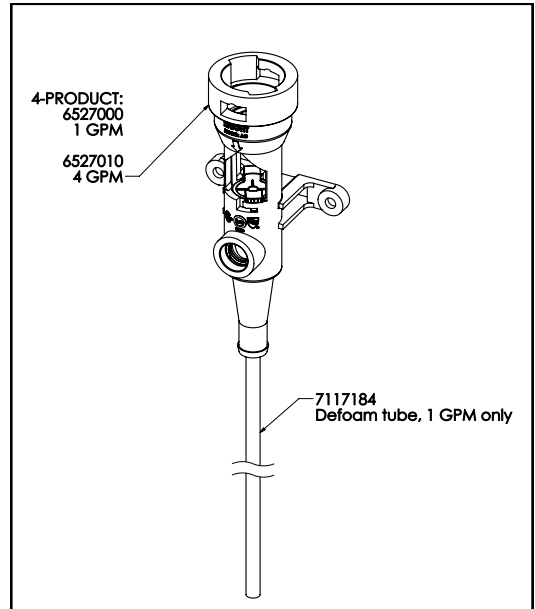

Figure 2 (Aire-Gap Assembly)
- (1) Remove the cover by gently snapping it away from the unit. Disconnect tubing from Aire-gap housing.
- (2) Twist and disconnect Aire-Gap housing counter-clockwise to remove water valve body.
- (3) Remove existing nozzle, deflector plate, and venturi tube by disassembling the Aire-Gap assembly — **See Figure 2.**
- (4) Reassemble the Aire-Gap using new nozzle, splash deflector, and venturi tube (for the desired flow rate). To avoid leakage, install the rubber washer with the ribs facing upwards.
- (5) Put Aire-Gap assembly back in place in the order that they were removed.
- (6) Twist and reconnect Aire-Gap assembly back onto the water valve body.